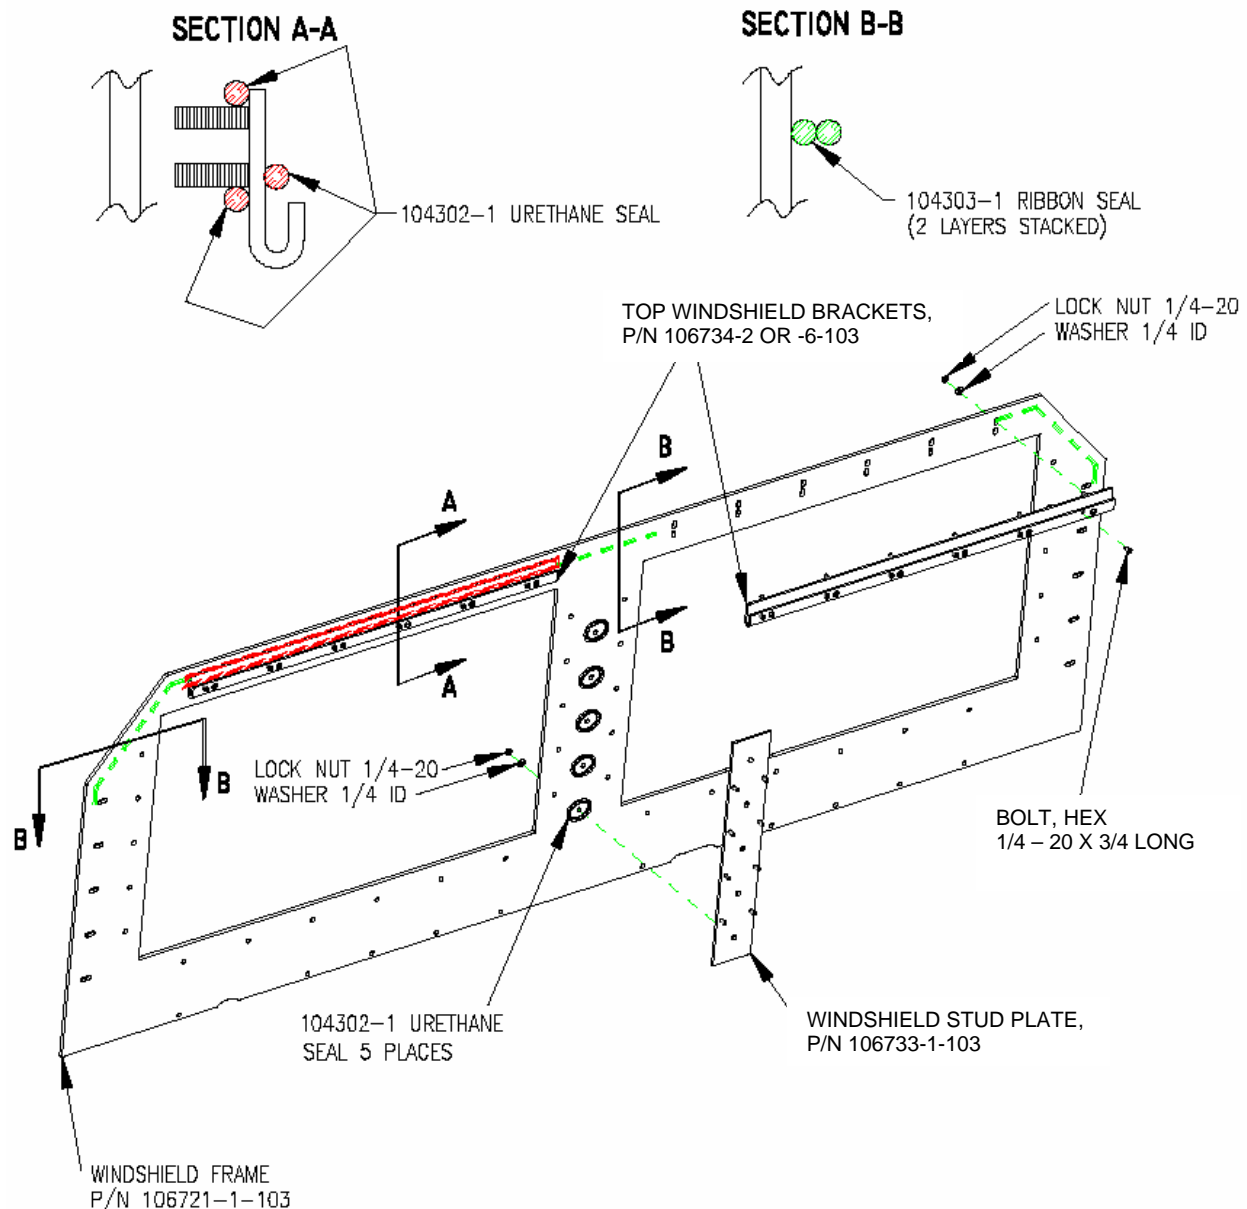

Figure 17. Windshield Frame pre-assembly.
- e) Attach the Top Windshield Brackets (P/N 106734-6-103) marked **"This Side Out"** to the **opposite** side of the Windshield Frame (P/N 106721-1-103) on the upper studs using twelve (12) 0.250-in. self-locking nuts and washers (see Figure 17). Verify that both brackets are parallel with the top edge of the windshield frame.
- f) Apply sealant (P/N 104302-1) to the windshield frame around the windshield stud plate mounting holes per Figure 17.
- g) Attach the Windshield Stud Plate, (P/N 106733-1-103) to the Windshield Frame using five (5) 0.250-in. self-locking screws and washers, as shown in Figure 17. Torque the nuts to 6 ft-lb.